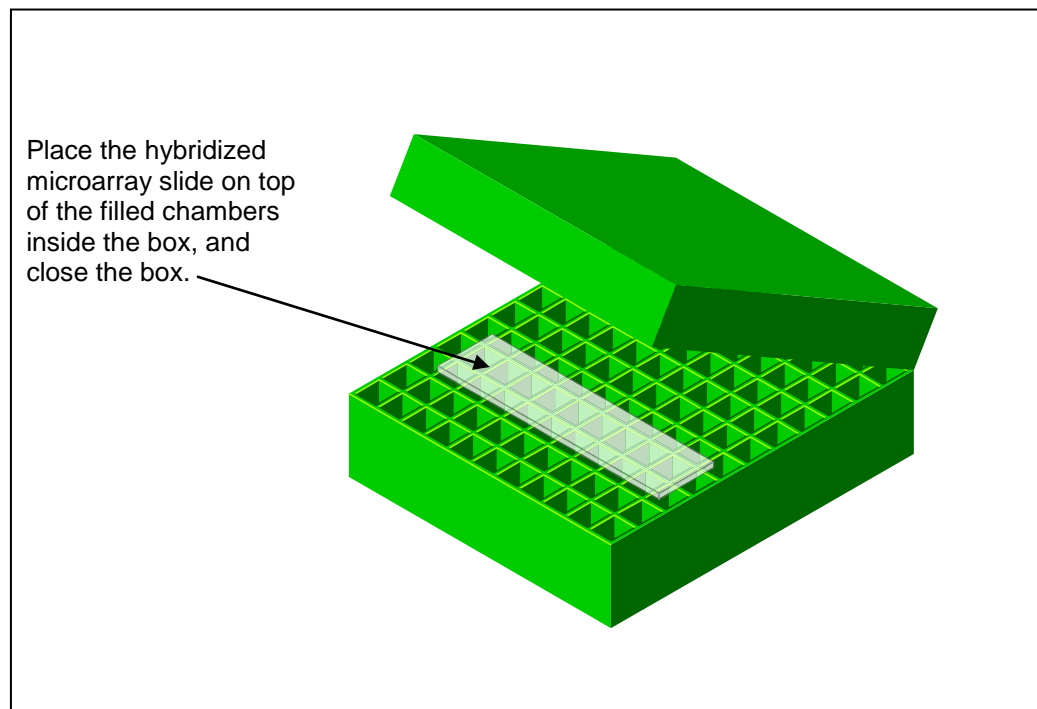

Figure 2: Step 4A(iii) → aRNA Hybridization—Glass Slide Inside Chamber Box²
- 11) Place the entire labeled target plus the microarray set-up into a closable, chambered box* that is humidified by 2X SSPE buffer in the 50°C oven for 14 to 16 hours. A sealed chamber ensures that the appropriate humidity level is maintained during incubation. (See Figure 2).
Figure 2, below, provides an illustration of Step 4Bc, where the hybridization protocol is completed using the glass cover slide method, and specifically, the OneArray[®] DNA Microarray is placed into the chambered box.
- ii. Use the applicator stick provided to press along the adhesive areas to ensure a secure seal. Visually inspect the seal from underneath the microarray; inconsistent patterns in the black adhesive may indicate an insecure seal. Re-use the applicator stick if needed (Figure 2)